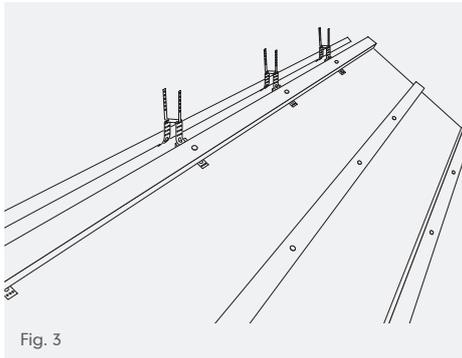

Fig. 3
- Fix the top course tiling battens into position, over the ridge batten brackets, leaving sufficient room for the tile nibs and to ensure the ridge tiles overlap the top course of tiles by no less than 75mm (Fig. 3).